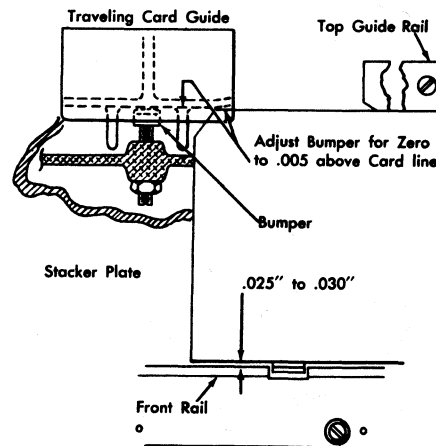

Figure 68. Stacker Adjustment
Traveling Card Guide. Adjust traveling card guide bumper to put vertical surface of traveling card guide in line with top rail and not more than .005-inch above it. This position can be determined by laying a straightedge (.0125-inch to .018-inch thickness gage) along edge of top card rail and extending it into stacker (Figure 68).
2. Position stacker bed plate for .025-inch to .030-inch clearance from bottom of card to narrow rail on bottom of bed plate (Figure 68).